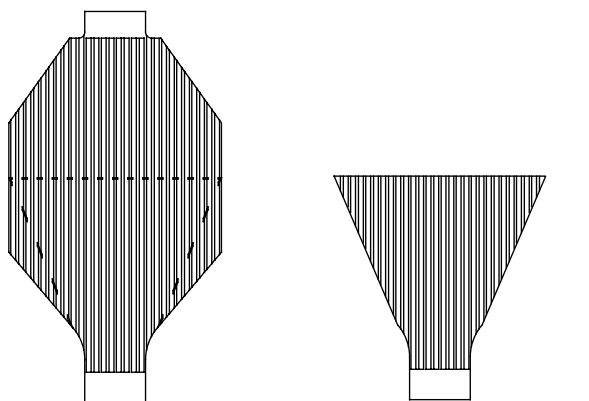

Figure 1: Trimming Vane for 3" Pipe
- Step 3: If necessary, trim the vane as seen in Figure 1 for a 3" pipe.